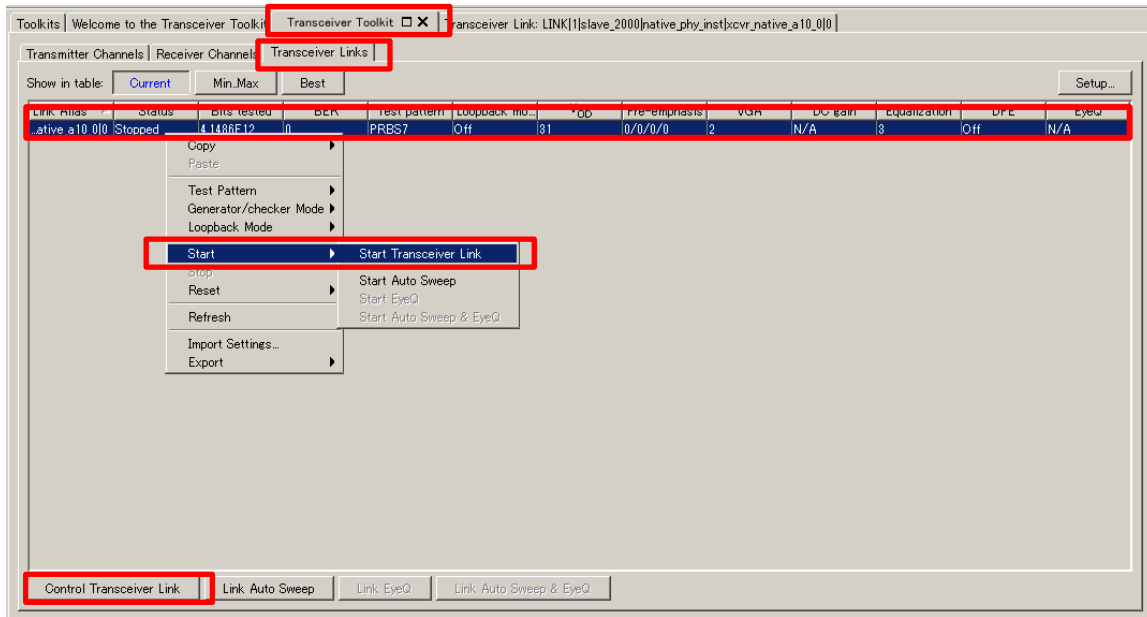

Figure 5-4 Transceiver Toolkit Operation Window
- 10) After starting up the Transceiver Toolkit, wait a short time for the window in Figure 5-4 to appear. Select the “Transceiver Toolkit” → “Transceiver Links” tabs, and then highlight the link that is shown in the list in Figure 5-4. If you want to change the sof file, or if the window in Figure 5-4 does not open, select the same sof file as the file written to the FPGA previously by selecting “File” → “Load Design...” as shown in Figure 5-5.
- 13) Click the Transceiver Toolkit tab at the top of the screen to reopen the Figure 5-4 screen. Right-click in the highlighted list to open a context menu. At this point, click “Start” → “Start Transceiver Link” to start the test. If the status on the receiver channel side is green and the bit error rate is 0, as shown in Figure 5-7, then that means the loopback operation is running normally.